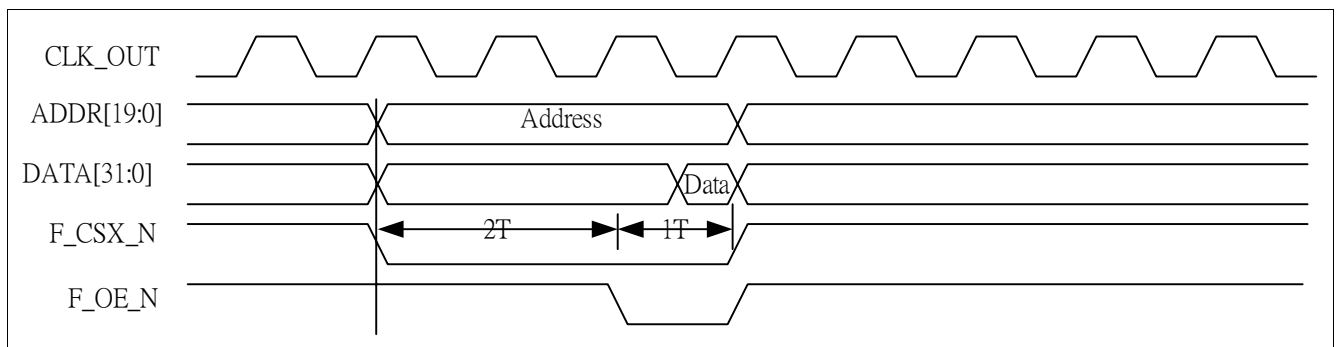

Figure 6 Read with Two Clock Delay for Read Enable
- The delay between the assertion of the chip select and the output enable is programmable from 0 to 15 cycles using the WAITOEN bits of the **MPMC Static Wait Oen 1** registers. The output enable is always deasserted at the same time as the chip select, at the end of the transfer. **Figure 6** shows that the WAITOEN is set to 2 in the **MPMC Static Wait Oen 1** registers.